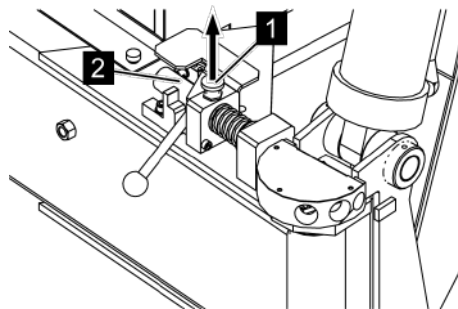

Fig. 83: Loosening the latching
1. ➔ Pull the locking pin (Fig. 83/1) upwards until the latching bolt (Fig. 83/2) turns freely.